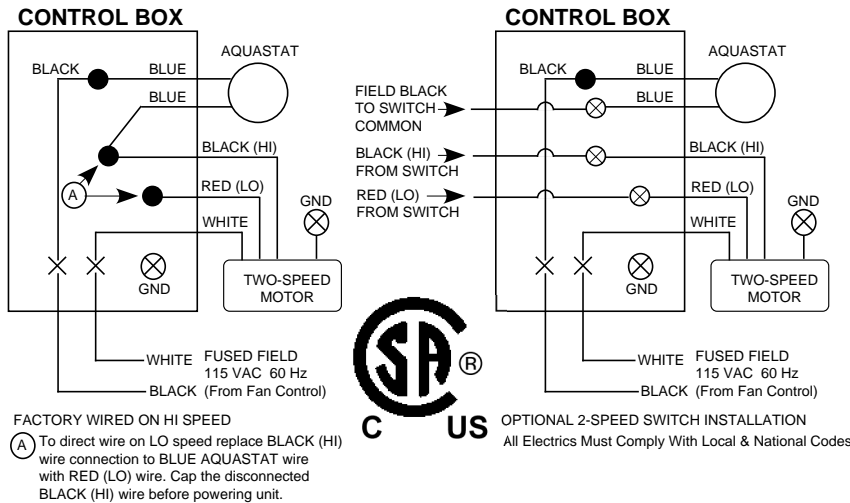

FIG. 2 CONTROL WIRING OPTIONS
- C. Unit is pre-wired from the factory on Hi speed. Unit may be optionally installed with a remote mounted 2-speed switch (included) and/or a line voltage thermostat. (SEE FIG. 2)